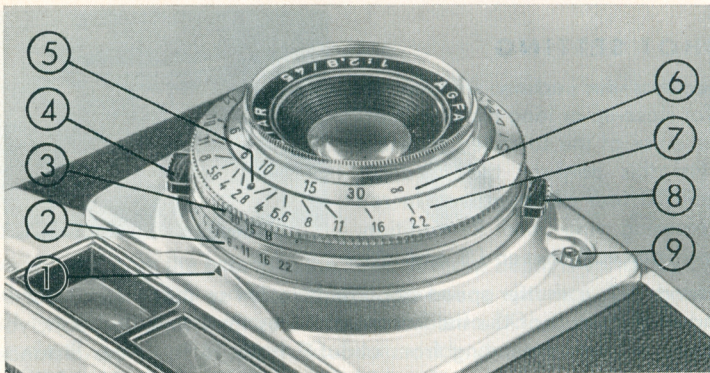

Fig. 10
Make certain once more that the DIN/ASA scale under the rewind button has been set at the speed of the film in the camera—as described on page 5—and now point your camera in the direction of your subject. The incident light causes the little pointer to move—we say it is deflected—and to settle at a certain point. This pointer deflection will be small in poor light, and great in bright light. This pointer must now be “captured” within the setting frame, also visible in the window. To do this, the iris diaphragm is moved, while at the same time both keys (4 and 8, fig. 10, page 16) are depressed with the upper one yielding to the pressure, until the pointer is in the centre of the setting frame.
When you choose the shutter speed-stop combination most favourable for your subject, you only have to see to it that a shutter speed short enough for a hand held instantaneous exposure (e.g.  $1/60$ ,  $1/125$  sec., etc.,) is opposite the triangular mark (1, see fig. 10, page 16). Any combination you might now choose to set will admit the same quantity of light to the film.
When the exposure meter pointer is “*captured*” in the setting frame it may happen that the black triangular mark (1, see fig. 10, page 16) will come to
On the front rim of the lens mount the distance values in feet are engraved. The black dot (5, see fig. 10, page 16) is the focusing point which the distance value arrived at must face. Stop numbers are engraved to the left and the right of this focusing mark. These auxiliary
As you will see from the example, the zone of sharp depth is variable; it increases with decreasing aperture and also with increasing distance. To enable you to control the extent of the sharp zone, your Silette LK has a so called depth of field scale (7, see fig. 10, page 16), from which you can read at any time the approximate extent of the zone.
- ① Setting mark for stop and shutter speeds. Shutter speeds must face the apex of the triangle accurately, i. e. they must click into position.
- ② Aperture (Stop) Scale
- ③ Shutter Speed Scale
- ④ Spring Loaded Locking Key for setting the stop ring
- ⑤ Distance Setting Mark. Rotate the front mount ring 6, until the desired number faces the little black mark (e.g. 10 feet in fig. 10).
- ⑥ Mount Ring with Feet Scale
- ⑦ Depth of Field Scale (Explanation see pp. 14/15)
- ⑧ Rigid Key for the Stop Ring adjustment in connection with the spring loaded key (4)
- ⑨ 3mm. Flash Contact for the connecting cable of the flash unit